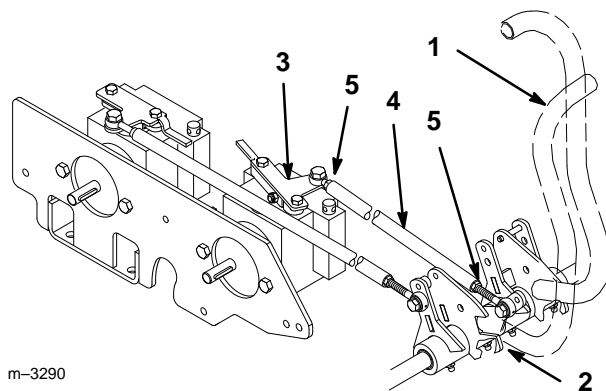

Figure 31
7. Rotate control rod 1/2 turn, to lengthen rod, and tighten jam nuts (Fig. 31).
1. Loosen jam nuts on pump control rod (Fig. 31).
2. Push and firmly hold motion control lever against forward stop (Fig. 31).
3. Rotate pump control rod until pump control plate is in the full forward position (Fig. 31). Motion control lever will lift off forward stop.
4. Lengthen control rod by 1/2 turn and tighten jam nuts (Fig. 31).